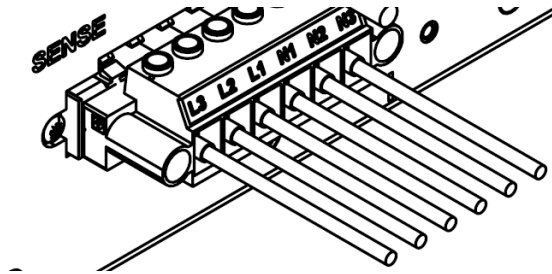

Figure 7-25: Tightening the Connector to the Power Source
6. Tighten the connector to the power source rear panel as shown in **Figure 7-25** using a tightening torque of 3–6 Lbf (0.3–0.7Nm).